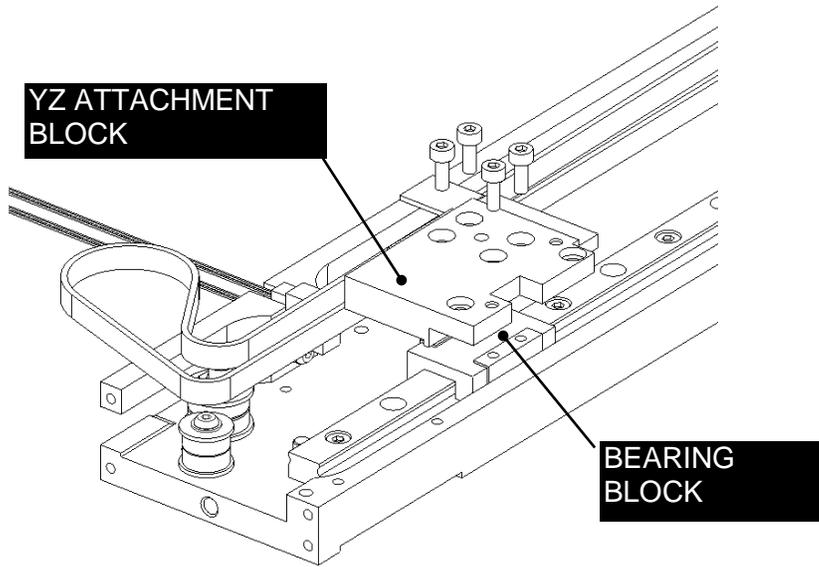

Figure 8-17: Attaching the YZ Attachment Block. Part A
3. c) Loosely fix the YZ Attachment Block to the Y Drive Linear Rail Block using four M3x8 Cap Head Screws and Loctite 222. Push the Attachment Block so that the datum face is flush to the datum face of the Bearing Block and using a 10in/lb torque driver to tighten the screws (Figure 8-17 and 8-18).